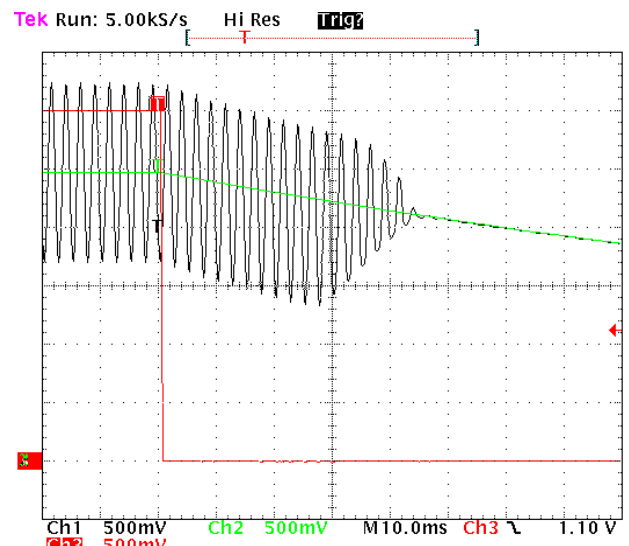

Figure 41. TurningOff Time Zoom/ $V_p = 5.0$ V
- 50 ms later the audio signal is cut off as the gain is turned to zero internally as shown in Figure 41.